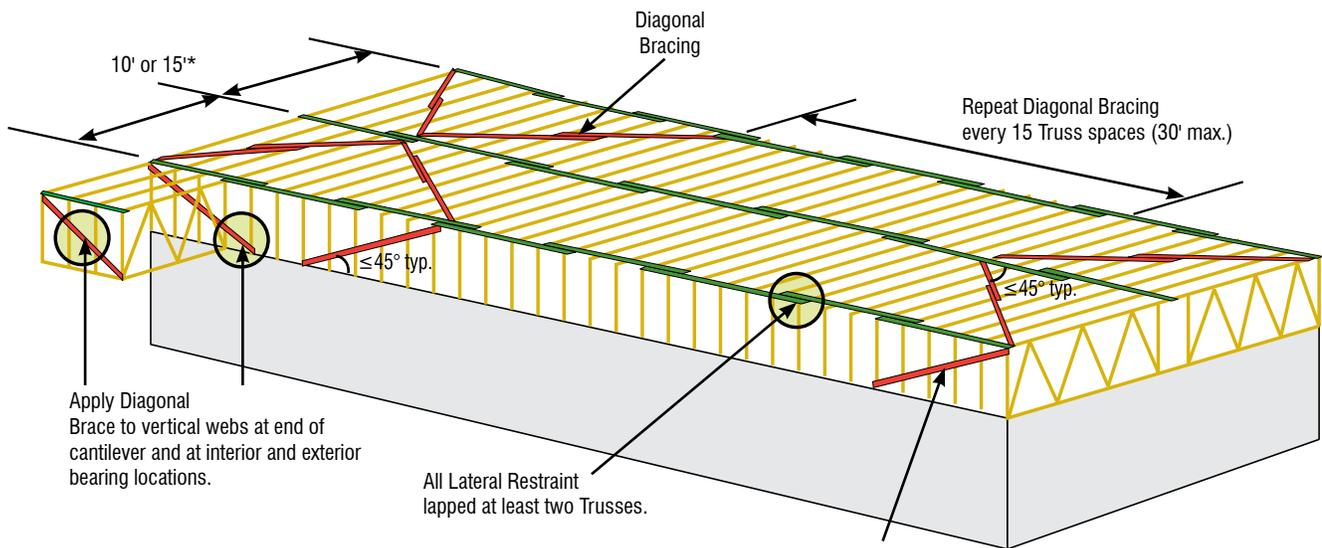
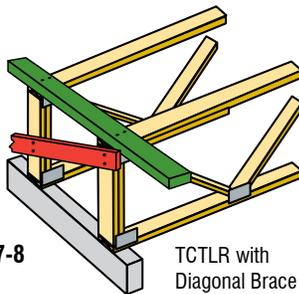

FIGURE B7-7
FIGURE B7-8
See **NOTICE** and Figures B7-8, 9, 10 and 11 below. Repeat every 15 Truss spaces (30' max.)
- ✓ End diagonals, with TCLR or Ribbon (band) board, Blocking Panels, or Rim board (see Figures B7-8, 9, 10 and 11) are examples of framing components that provide stability to the PCT during installation. Install one of these types of components on both ends of the Truss System and repeat every 15 Truss spaces (30' maximum), see Figure B7-7.
- ✓ Install Structural Sheathing, Ribbon board with Structural Sheathing, Blocking panels, or Rim board (see Figures B7-8,9,10 and 11 on page 60) at the bearing locations of bottom chord bearing PCT as specified by the Building Designer to transfer lateral diaphragm forces to the shear walls.